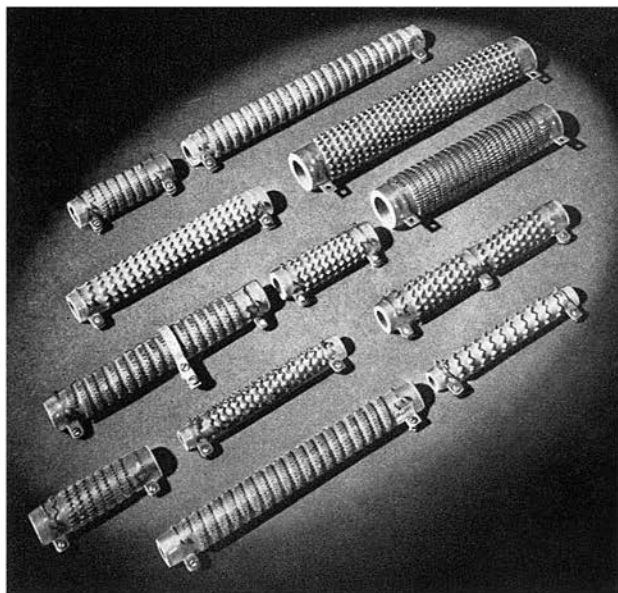

Figure 3-27. Ribflex Resistors
1. *Construction*—Ribflex resistors, Figure 3-27, consist essentially of crimped resistance ribbon wound on edge on a refractory ceramic tube, and silver brazed at each end to heavy, screw-type terminals. Vitreous enamel is applied to the surface to anchor the ribbon and terminals securely in place.